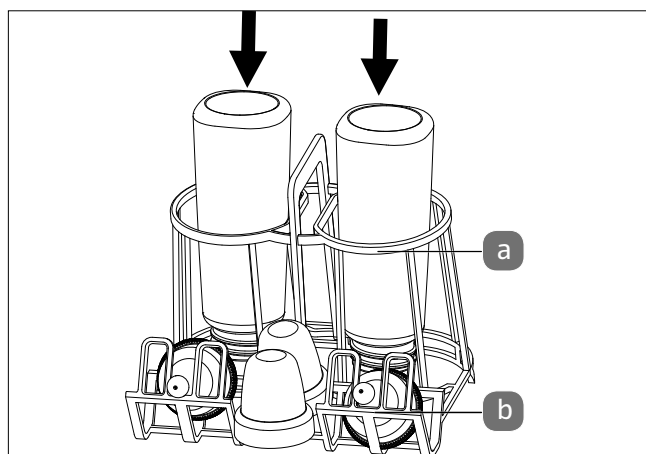

Fig. 21 – Using the baby bottle holder
To clean baby bottles, place the baby bottle holder (8) in the dish rack and place the bottles with the opening facing downwards in the basket opening (a) (see Fig. 21). Place the lids and dummies of the baby bottle on the lid holder (b).